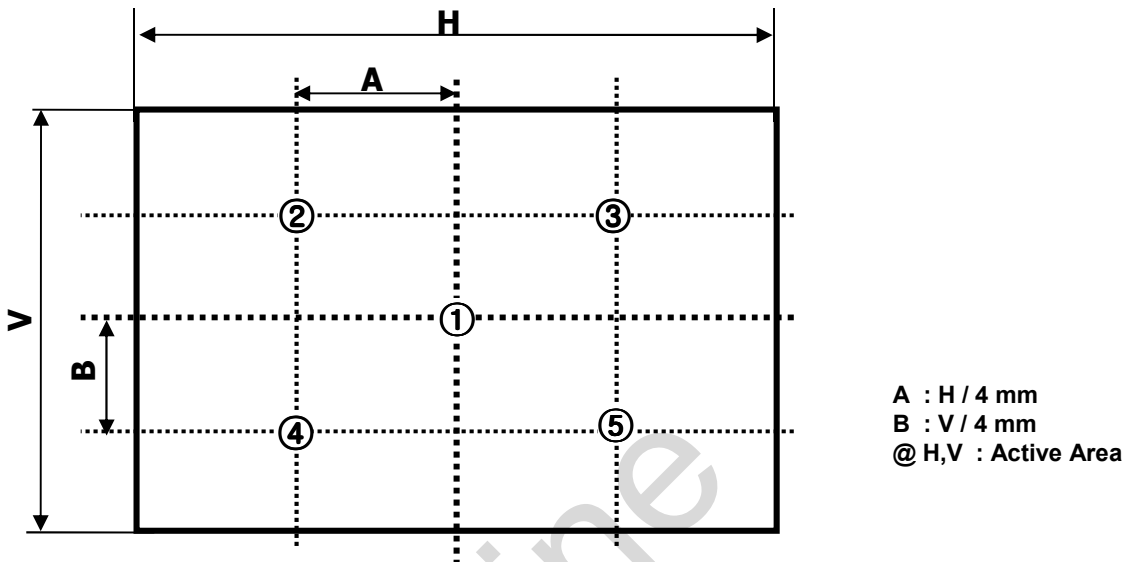

FIG. 2 5 Points for Luminance Measure
n = the Position number(1, 2, 3, 4, 5). For more information, see FIG. 2.
2. Surface luminance are determined after the unit has been 'ON' and 1 Hour after lighting the backlight in a dark environment at 25± 2°C. Surface luminance is the luminance value at center 1-point across the LCD surface 50cm from the surface with all pixels displaying white. For more information see the FIG. 2.
For more information, see the FIG. 2.